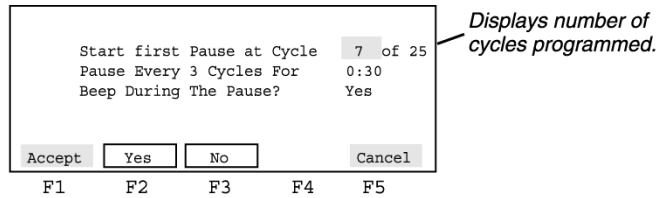

Figure 4-17. The Programmed Pause screen
4. From the Insert screen, press **F3-Pause**. This displays the Programmed Pause screen (Figure 4-17).
2. Press **F5-Edit** to access the programmed pause screen (Figure 4-17). From this screen you can change any of the pause parameters. Or, use the arrow keys to select the pause time parameter on the screen, and edit it by entering a different time.